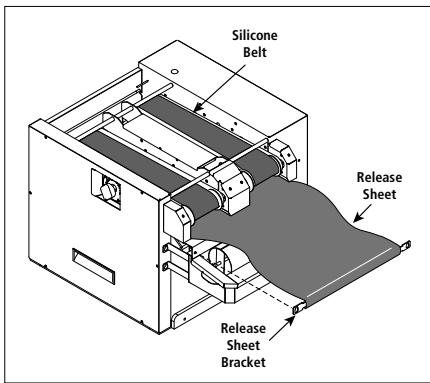

Figure 1. Installing Release Sheet
4. To install the Release Sheet, insert the loose end of the sheet into the toaster (Figure 1). Turn the unit on and allow the Conveyor Belt to draw the sheet into the unit. Turn the unit off.